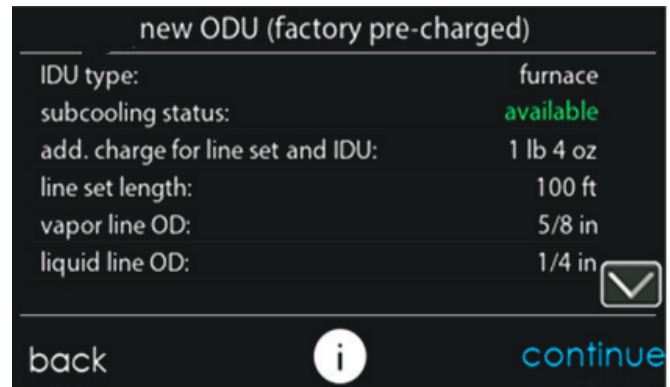
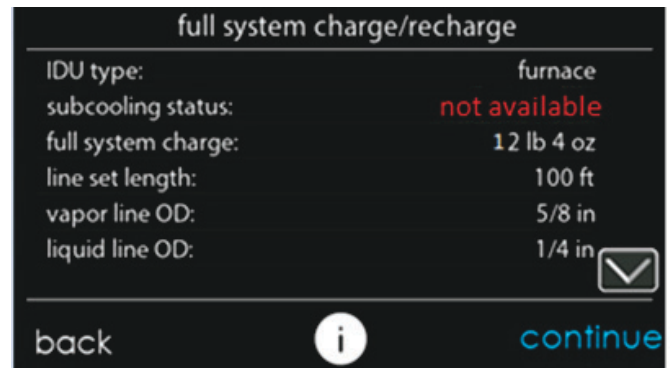

Fig. 14 – New ODU (factory pre-charged) - Subcooling Available
Fig. 15 – Full System Charge/Recharge - Subcooling Unavailable
7. If indoor and outdoor conditions are in range, subcooling status will be green and available (Fig. 14). If conditions are outside the range, subcooling status will be red and unavailable and will require a partial weigh-in of charge (Fig. 15). Both "new ODU (factory pre-charged)" and "full system charge/recharge" modes will allow the user to move forward to start the system regardless of whether subcooling charging is available. Lineset configuration and climate zone / odu material type can be changed by selecting appropriate line if needed. For "new ODU (factory pre-charged)" record the ADDITIONAL charge amount listed. For "full system charge/recharge", record the FULL system charge amount listed. Press continue.